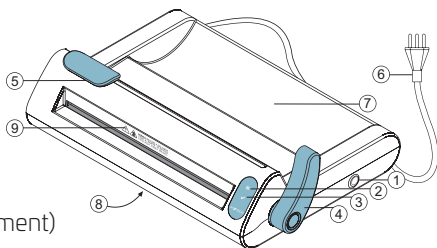

Fig. 1
- Sealer is able to work on 127V and 220V, as indicated in the identification label, behind the equipment (Fig. 1).
- 1 Plug the sealer and press the On/Off button until the beep sounds to turn on the equipment, 3 beeps will sound and the LED will blink, indicating the heating phase. When sealing temperature is reached (three minutes approximately with the handle lifted up, Fig. 1), 2 beeps will sound and the LED will be on, indicating that the sealer is ready to be used.
- 2 Insert the tip of the sterilization package through the sealing entrance, always with the paper side downwards and plastic upwards, pull by the other side and place the roll at the roll holder (Fig. 1). Pull the paper to seal at the desired size.